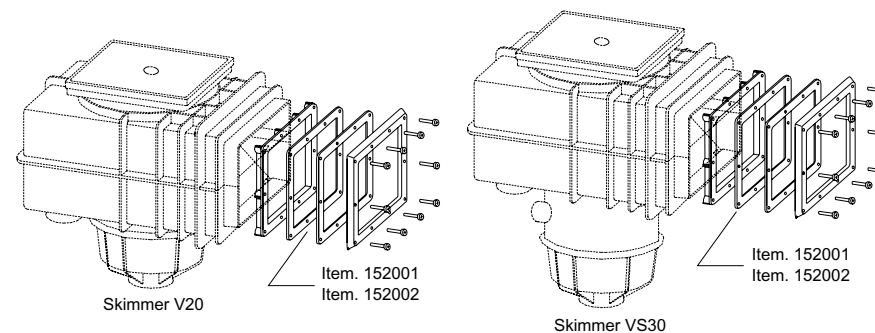

Fig. 8
2.2 Flange unit for skimmers V20 and VS30 (Figs 8 and 9)